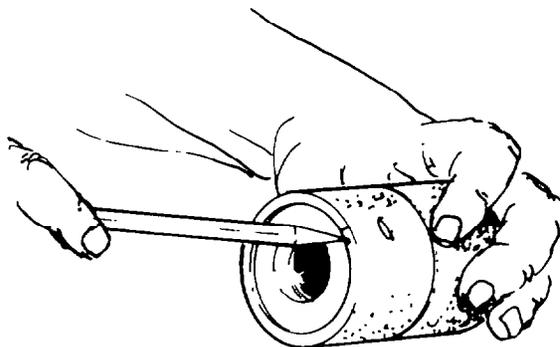

Fig. 62 — Marking Rear Bearing
- a. Mark the edge of the rear bearing to enable the correct positioning of the oil hole during installation (see fig. 62).